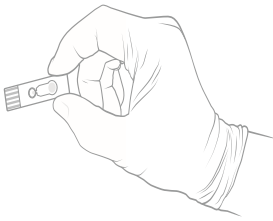

Figure 2. View of MiOXSYS Sensor
2. Holding sensor at front side edges (Figure 2), insert the MiOXSYS Sensor face-up with the sensor electrodes facing the MiOXSYS Analyzer. Align the socket insertion end with the sensor socket on the MiOXSYS Analyzer. Make sure the sensor is fully inserted before continuing the test procedure.